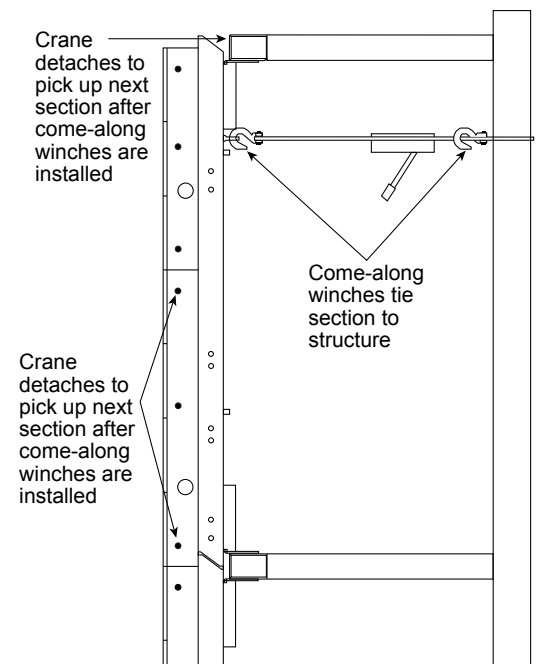

Figure 3: Keeping Section in Place
- Install 1/2" eyebolts in the rear of the full-height tubes if a sufficient structure exists and tie come-along winches back to the structure. Refer to **Figure 3 on page 1**. After the section is secured with the come-along winches, the crane can be released to pick up the next section. The come-along winches should remain attached to the section until Step 8 is complete and the section is permanently attached to the structure.